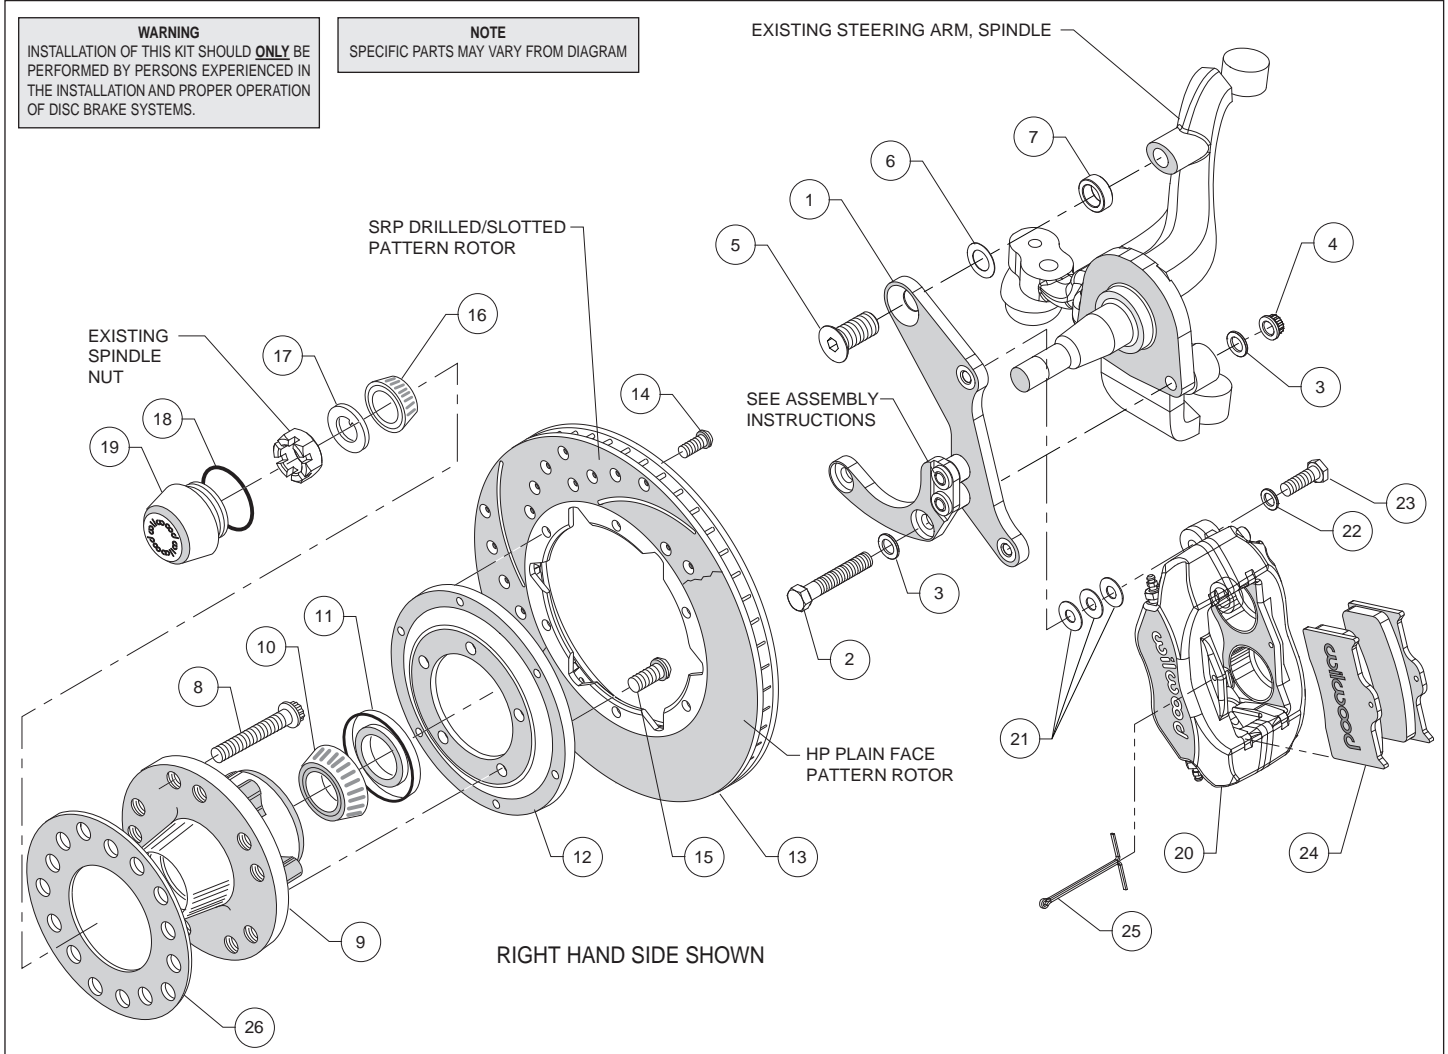
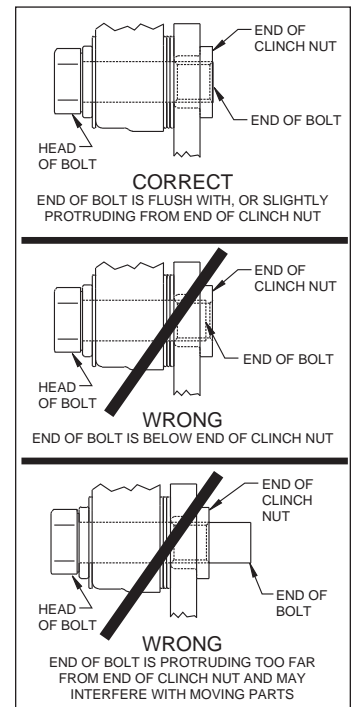

Figure 1. Typical Installation Configuration
Figure 3. Clinch Nut Engagement Diagram
**Assembly Instructions** (numbers in parenthesis refer to the parts list and Figure 1 on the preceding pages): **CAUTION:** All mounting bolts must fully engage clinch nuts. Be sure to check that all bolts are either flush or protruding through flanged side of clinch nut after shimming, Figure 3.
- The caliper mounting bracket (1) has been assembled at the factory for alignment purposes. Loosen the two bolts that secure the brackets together so that the bolts are hand tight only. This will enable the bracket assembly to be adjusted to accommodate various spindle tolerances during assembly. Align bracket with the two lower holes on the spindle face and attach using bolts (2) and washers (3), and secure using nuts (4), as shown in Figure 1 and Photo 1. Install bolt (5) through top of bracket while placing spacer (7) and shim (6) between bracket and spindle, Figure 1. Initially use one .015" thick shim (6) on the top bolt between the bracket and upright. Temporarily tighten the mounting bolts. Ensure that the flanged heads of the clinch nuts in the bracket are facing outboard, Photo 1. **NOTE:** The bracket must fit squarely against the mounting points on the spindle. Inspect for interference from casting irregularities, machining ridges, burrs, etc.
- Check that the bracket is aligned parallel to the rotor by assembling and installing the hub/rotor per the steps below. If not, adjust by adding or subtracting shims (6) between the spacer (7) and bracket, Figure 1.
- Install the grease seal (11) by pressing into the backside of the hub (9), flush with the end of the hub, Photo 3.
- Orient the rotor (13) and the rotor adapter (12) as shown in Figure 1 and Photo 4. Attach the rotor to the adapter using bolts (14). Using an alternating sequence, apply red *Loctite*® 271 to the threads, and torque to 25 ft-lb.
- Mount the adapter/rotor assembly (12/13) to the hub (9) using bolts (15), as shown in Figure 1 and Photo 5. Using an alternating sequence, apply red *Loctite*® 271 to the threads, and torque to 55 ft-lb.
- Pack the small outer bearing cone (16) with high temperature disc brake bearing grease and install into hub (9). Slide the hub/rotor assembly onto the spindle. Secure using spindle washer (17) and OEM spindle nut, Photo 6. Adjust bearings per OEM specifications. Install saved OEM nut lock (if any) and a new cotter pin (not supplied).
- Screw dust cap (19) into hub (9), Photo 7. Friction created by the o-ring (18) on the dust cap keeps it from unscrewing. **NOTE:** The O.D. of the existing OEM spindle washer may be larger than the I.D. of the dust cap not allowing it to seat against the hub face. Therefore, use the spindle washer (17) supplied with the kit instead of the OEM washer.
- NOTE:** Please reference the caution statement at the beginning of the assembly instructions. Mount the caliper (20) onto the caliper mounting bracket (1) using bolts (23) and washers (22), as shown in Figure 1. Initially place three .035" thick shims (21) on each bolt between the caliper and the bracket, Photo 8. Temporarily tighten the mounting bolts and view the rotor (13) through the top opening of the caliper. The rotor should be centered in the caliper, Photo 9. If not, adjust by adding or subtracting shims between the bracket and the caliper. Always use the same amount of shims on each of the two mounting bolts. **NOTE:** The end of each bolt must be flush with or slightly protruding from the head of the clinch nut, as shown in Figure 3. If necessary place spare shims between washer (22) and caliper mounting ear to achieve the proper clinch nut engagement. Once the caliper alignment and clinch nut engagement are correct, remove the bolts one at a time, apply red *Loctite*® 271 to bolt threads, and torque to 40 ft-lb.
- Install the disc brake pads (24) into the caliper, with the friction material facing the rotor (13), and secure in place using cotter pin (25), Photo 10.
- Temporarily install wheel and torque lug nuts to manufacturer's specification. Ensure that the wheel rotates freely without any interference. **NOTE:** Wheel spacer (item 26) **MUST** be used if any wheel contact surfaces overhang the outside diameter of the hub face. See warning on page 3.